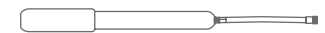

Fig. 6
- 6) • Tires are shipped un-inflated. The tires should be inflated on a regular basis to between 20 to 25 p.s.i. Always use a bicycle style hand air pump to inflate the tires (Fig. 6). *not included.